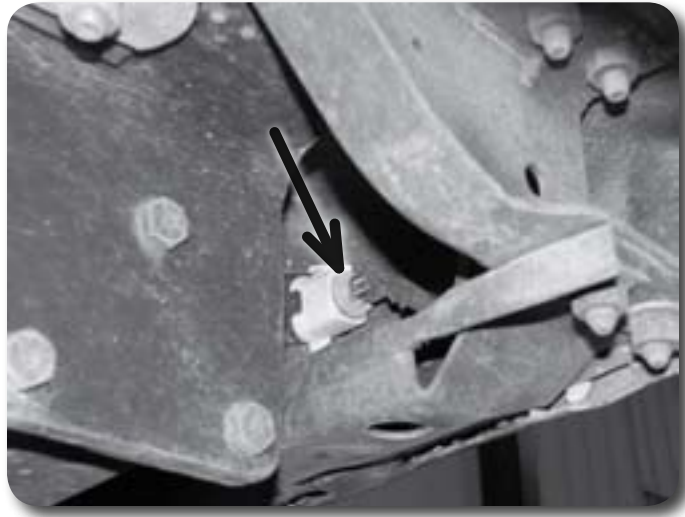

Figure 24
28. Disconnect the license plates lights from the rear bumper **Figure 24**.